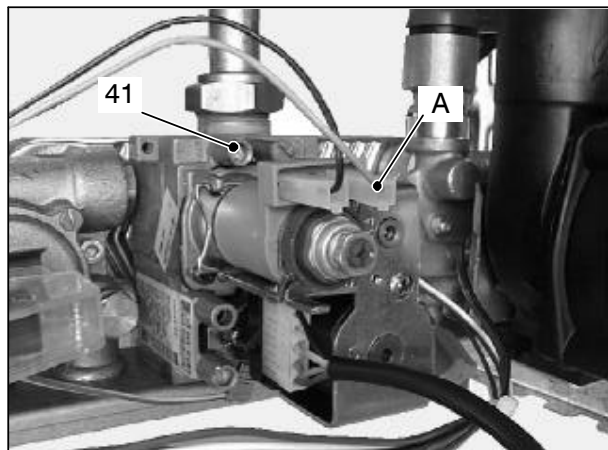

Fig. 7.5
- 2 Loosen the internal screw 41 (Fig. 7.5) on the Outlet Pressure Test Point of the Gas Valve and connect a pressure gauge using a suitable hose.
- 8 Disconnect the gas modulator coil by removing the electrical connector A (Fig. 7.5).
- 3 Unscrew the gas valve's outlet pressure test point 41 (Fig. 7.5) and connect a pressure gauge.